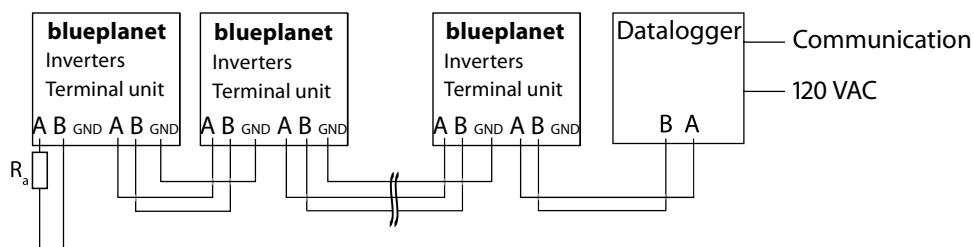

Figure 40: RS485 interface wiring diagram
- Wire B (+) with wire B (+) (see Figure 40 on page 32)